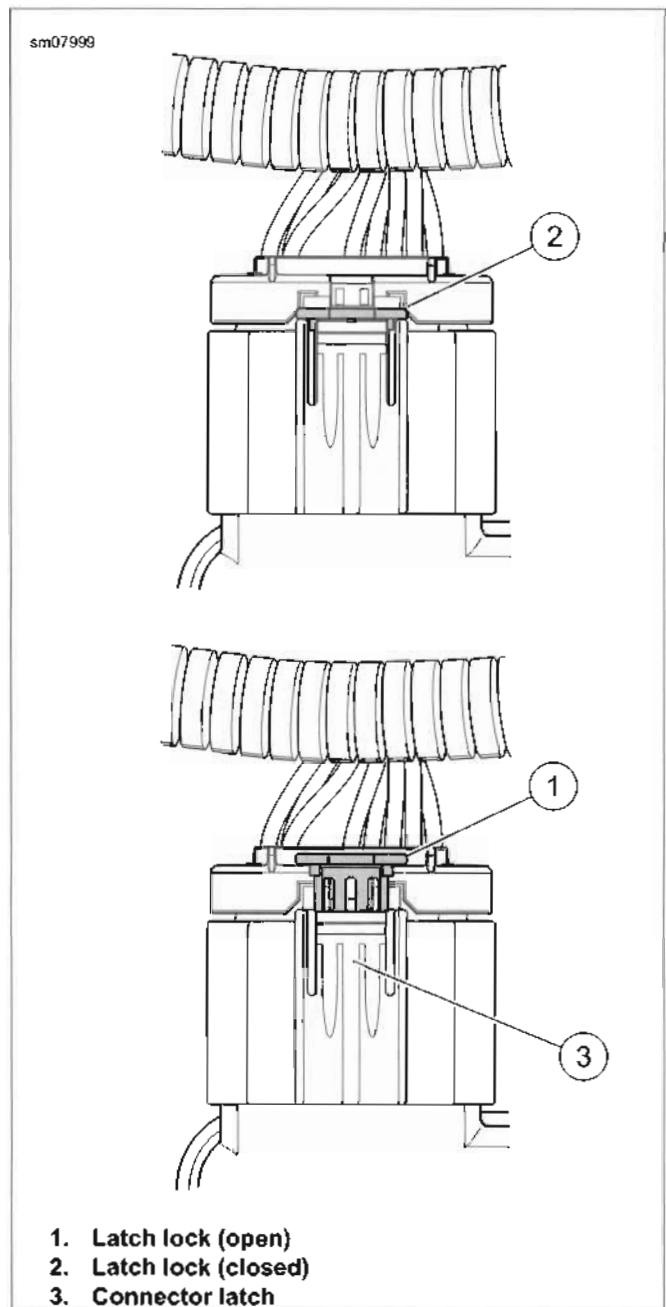

Figure A-68. Tyco GET 64 Sealed Connector Latch and Lock
See Figure A-68. **Separate:** Lift the latch lock to open (1). Press the latch (3). Pull the socket housing off the ECM.